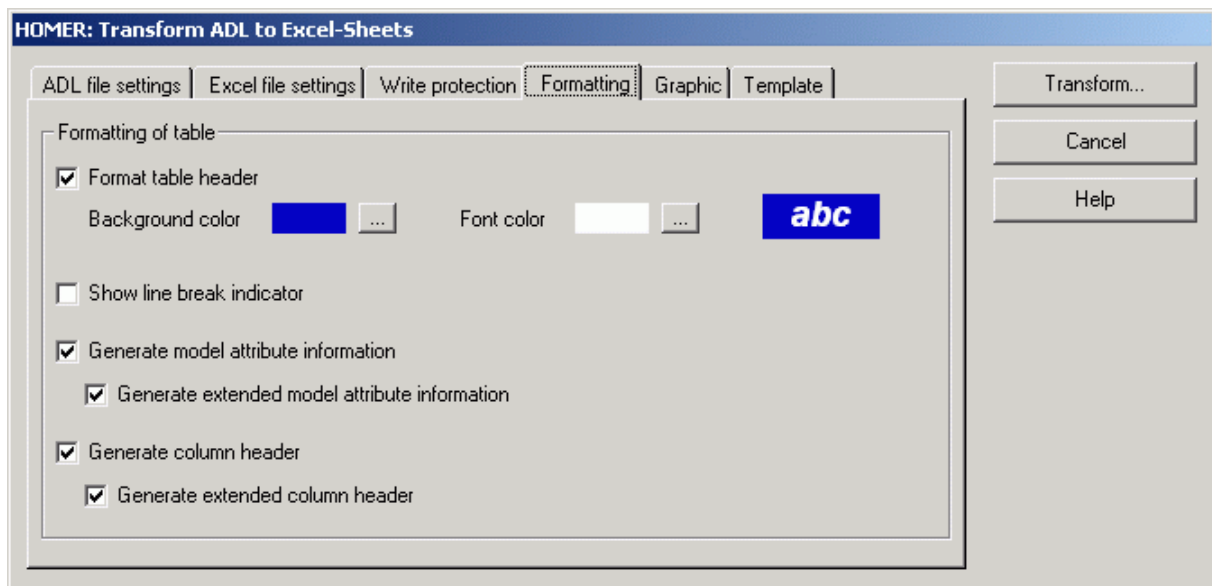

Figure 83: HOMER: transform ADL files to Excel sheets - Formatting
**Hint:** When you activate the option **"Use masters"**, the option **"Format table"** in the register **"Formatting"** will automatically be deactivated (see fig. 83), since the formats will be taken over in the model.